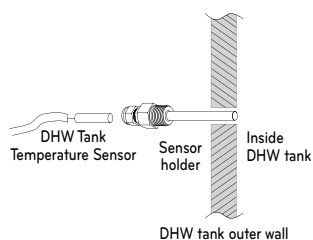

Fig. 2
※ The sensor should be mounted correctly to the sensor hole of DHW water tank like below fig. 2.
- Step 4.** Insert temperature sensor into PCB(CN_ROOM) and fix the sensor firmly in fig. 2.